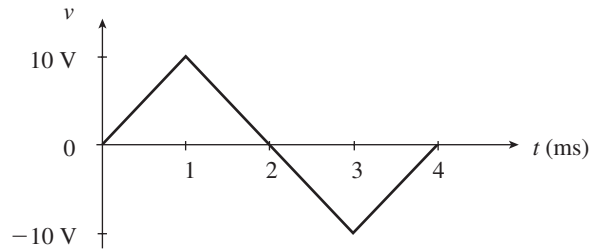

FIGURE 17–52
36. **PSpice** The voltage waveform of Figure 17–52 is applied to a $200\text{-}\mu\text{F}$ capacitor.
- Use PSpice to verify the results. Use voltage source VPWL. You have to describe the waveform to the source. It has a value of 0 V at $t = 0$, 10 V at $t = 1$ ms, -10 V at $t = 3$ ms, and 0 V at $t = 4$ ms. To set these, double click the source symbol and enter values via the Property Editor as follows: **0** for T1, **0V** for V1, **1ms** for T2, **10V** for V2, etc. Run the simulation and plot voltage, current, and power using the procedure we used to create Figure 17–30. Results should agree with those of (a).